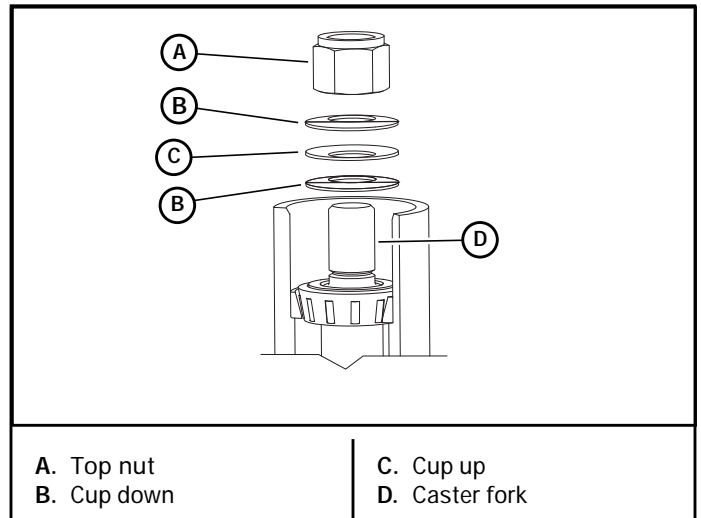

Figure 6-27
**IMPORTANT:** Stack the cup washers as shown in Figure 6-27.
12. Torque the top nut to 40 ft-lbs (55 N•m), then back off ¼ turn. Figure 6-27